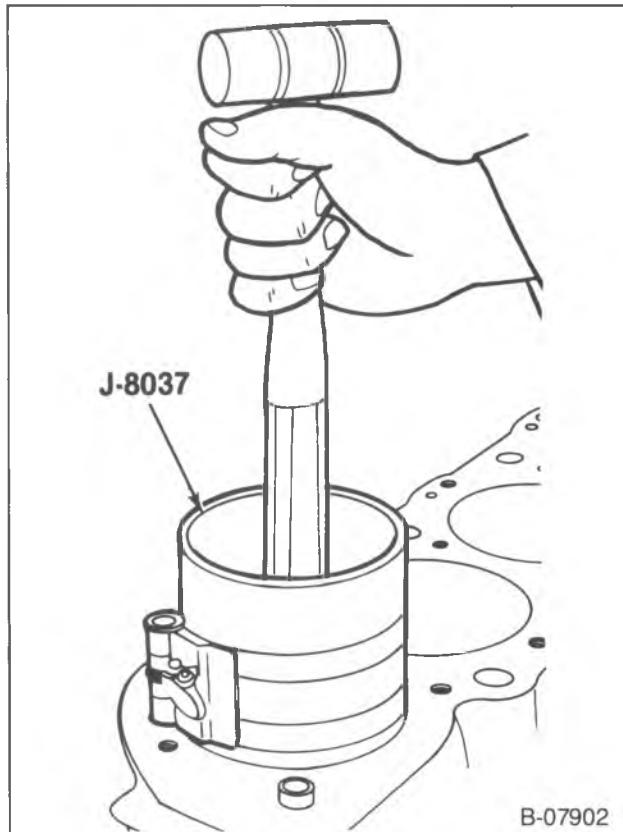
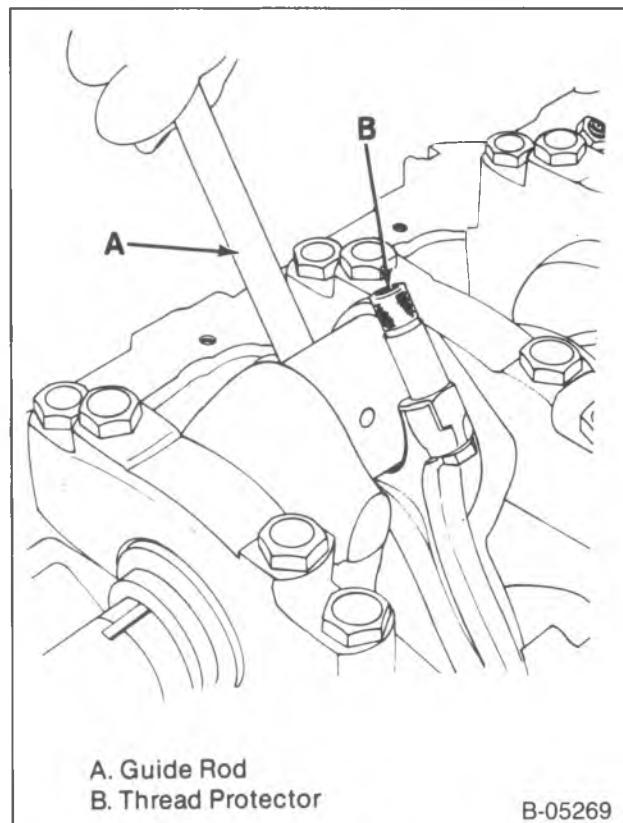

Figure 34—Installing the Piston
Figure 35—Guiding the Connecting Rod
- Without disturbing the ring end gap location, install J 8037 over the piston (figure 34).
- Place the piston in its matching bore. The connecting rod bearing tang slots must be on the side opposite the camshaft. Using light blows with a hammer handle, tap the piston down into its bore (figure 34). At the same time, from beneath the vehicle guide the connecting rod to the crankpin with J 5239 (figure 35). Hold the ring compressor against the block until all rings have entered the cylinder bore.